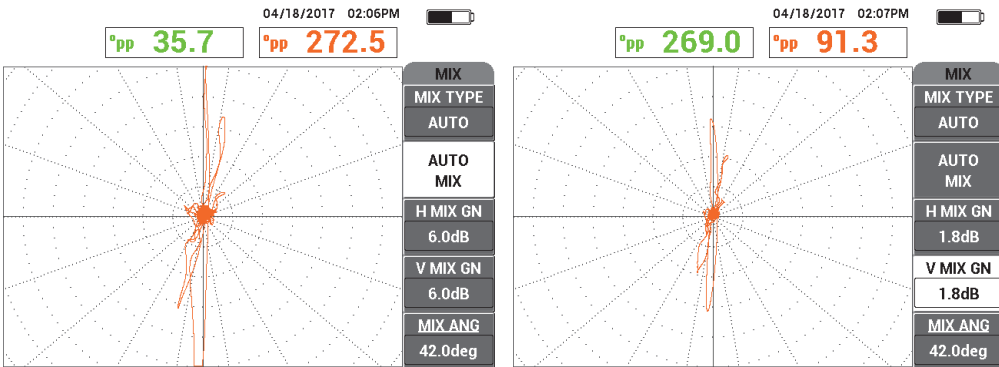

Figure 5-205 The signal after AUTO MIX (*left*); with angle/gain adjustment (*right*)
9. Press the FREEZE key (❄), followed by MIX ANG (mix angle, E key), and then rotate the knob until the larger thru-wall signal is vertical (see Figure 5-205 on page 274).